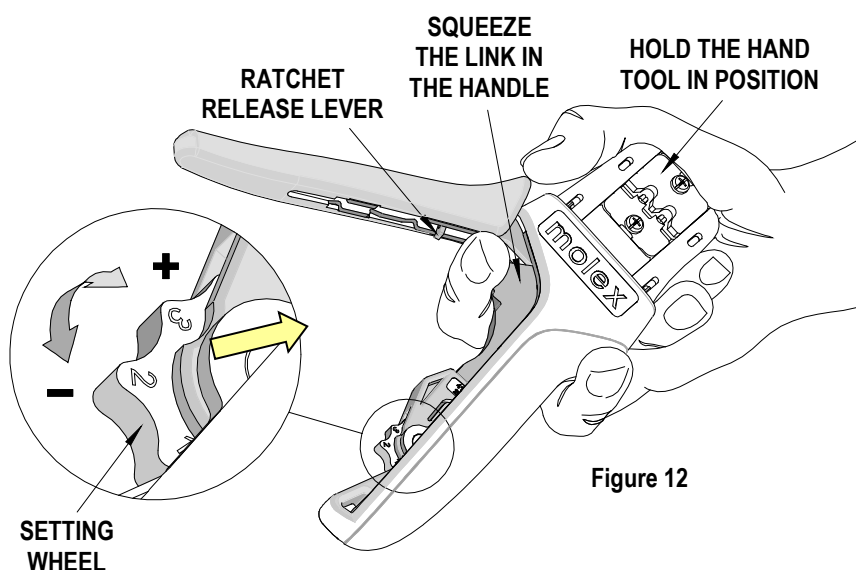

Figure 12
## How to Adjust Tool Preload (See Figure 12)
1. Hold the hand tool in the palm of your hand as shown in Figure 12. Using your index finger, squeeze the link toward the top of the hand tool frame. This will release the preload adjustment wheel.
2. Rotate the setting wheel counterclockwise (CCW) to increase handle force. The numbers will display higher. To decrease handle force, rotate the setting wheel clockwise (CW).